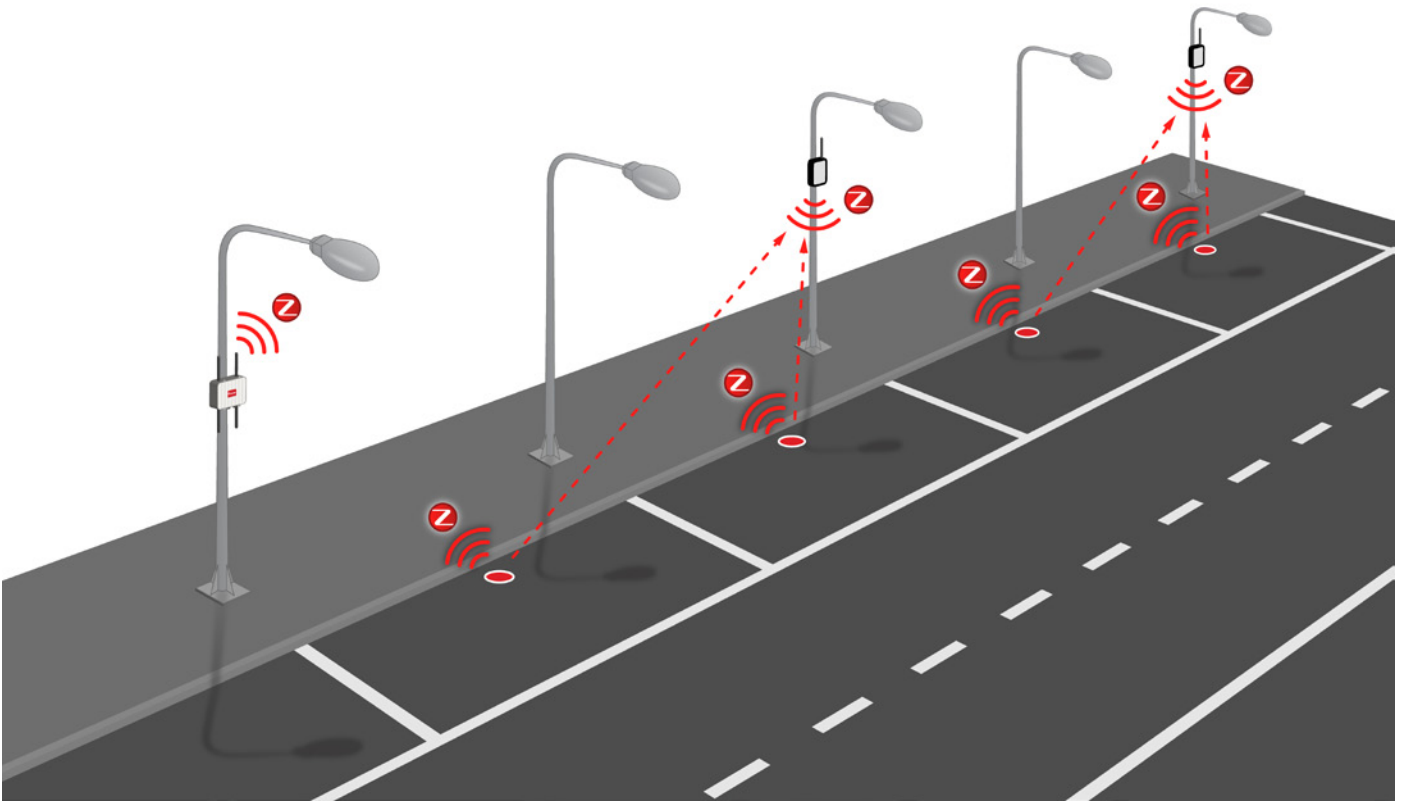

Figure 12: 2.4 GHz - Multihop ZigBee / Digimesh Network - The motes send the information to the repeaters
- 1° Step (Figure 12): The nodes send the information to the repeaters.